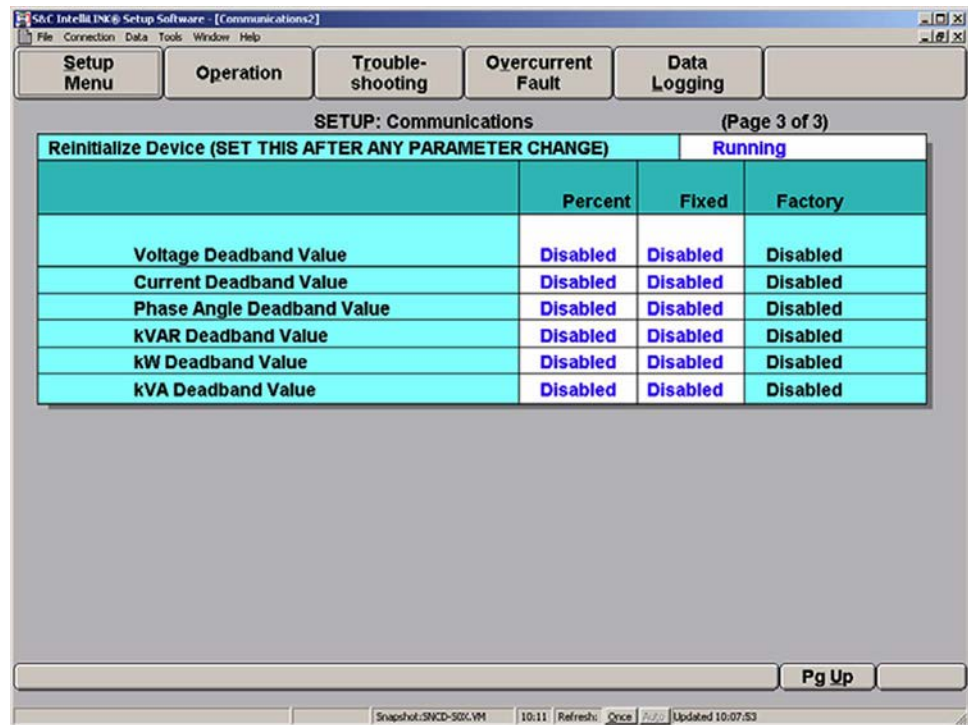

Figure 19. The *Setup>Communications* screen, Page 3 for a 5801 control with DNP.
STEP 10. At Page 2 of the *Setup>Communications* screen, click on the **PgDn** button to display Page 3. See Figure 19. Enter the correct values for this switch control.